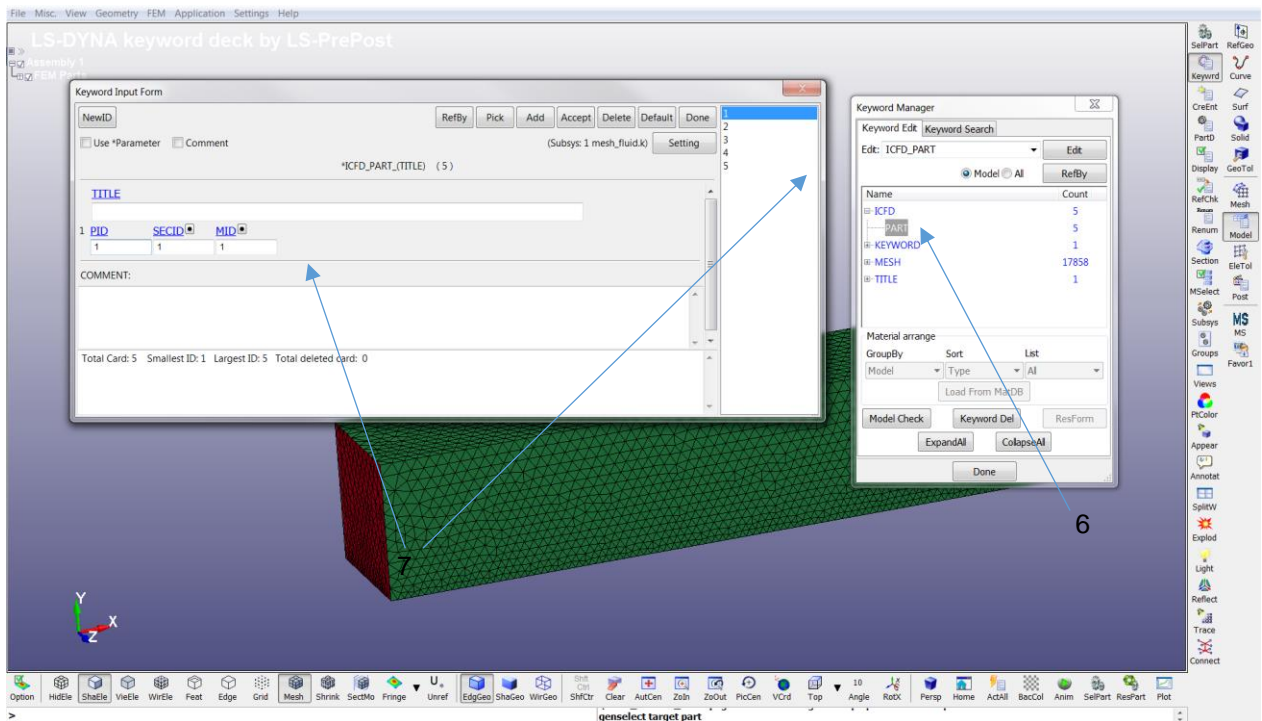

Figure 4 The *ICFD_PART keyword.
6. Next change the *ICFD_PART keywords so that each part has the section id and material id set to 1. Do this by going to Model/Keywrd and select the *ICFD keywords and double click on PART see Figure 4.
7. In the new window, see Figure 4, you will see five parts to the right and when selecting each part you will see which section id and material id it has. To set the section id and material id to 1 select part 1 and then change SECID and MID to one and then press Accept. You will get a warning that the section id and material id does not exist, but just press "ignore" since they will be added in the fluid_main.k file. **Note that if you do not press Accept before going to the next part the change will not be saved.** Do this for all parts.
- Now open the file fluid_main.k again and you will see the model. The first two keywords that we will define are *ICFD_SECTION and *ICFD_MAT. Select Model/Keyword like in Figure 4, but now you have to select "All" in the Keyword manager otherwise you will only see the keywords in your model. Then go to the *ICFD group and double click on the *ICFD_SECTION keyword and press accept. This keyword must be defined, but it does not do anything in the current version.